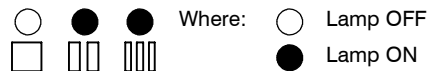

Fig. 8.10
- Press the reset button 7 repeatedly (5 times) until the lamps 10 give the indication as in Fig. 8.10 (gas type mode 2).